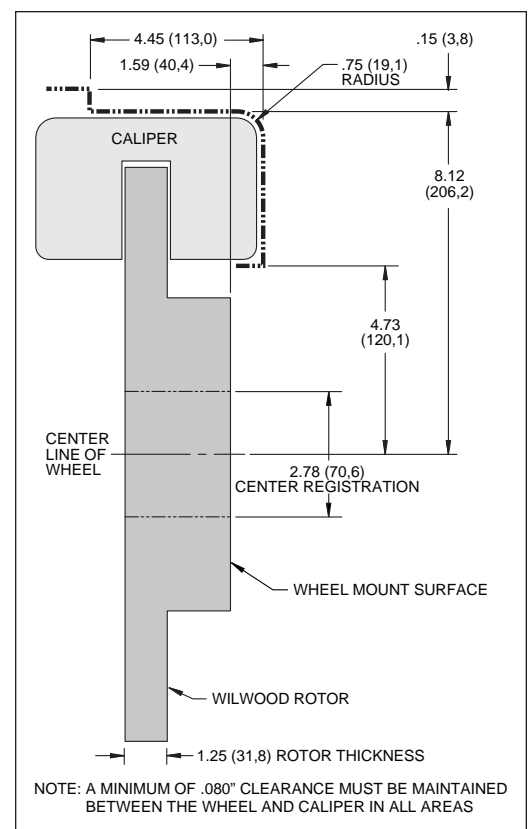

Figure 2. Wheel Clearance Diagram
- This kit requires a minimum of 18" or larger wheels and is unlikely to fit OEM factory wheels without wheel spacers. Aftermarket wheels are more likely to fit, but may require a wheel spacer. Please refer to wheel clearance diagram (Figure 2, page 3) for the specific sizing requirements to determine compatibility. Parts that have been installed may not be returned or exchanged.
- Verify your wheel clearance using Figure 2.